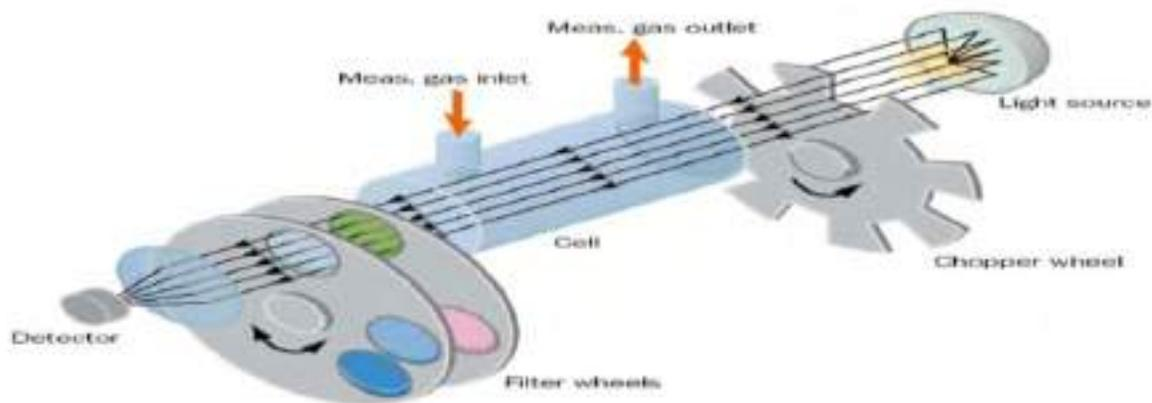

Figure 1 Hot Extractive Analyser Design
The measurement principle is based on the absorption of infra-red (IR) light. For each measured component, two filters are selected at respective wavelengths at which the target gas both does (□ MEAS) and doesn’t (□ REF) absorb IR light. The filter wheels rotate to align consecutive optical filters in the infra-red light path as the basis for a multi-component capability. (Fig 1)